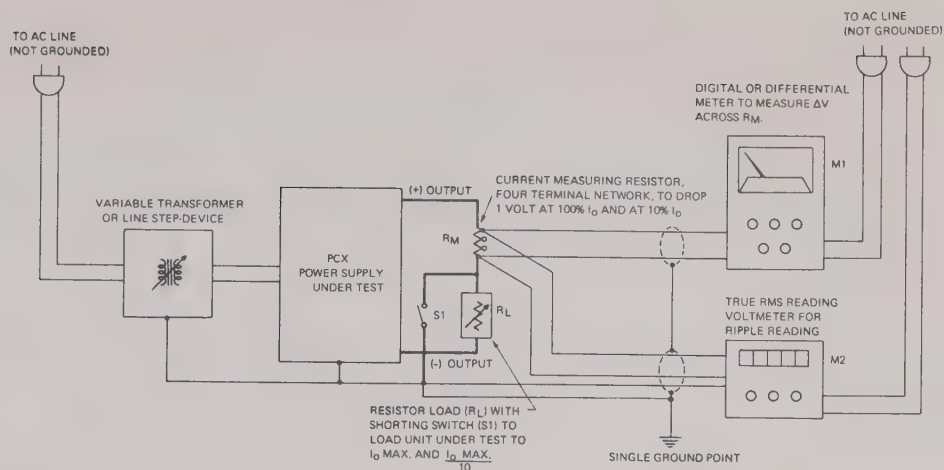

FIG. 5-4 TEST SET-UP FOR CURRENT REGULATION MEASUREMENTS
- c) **LINE REGULATION MEASUREMENT.** Set up test set-up as shown in FIG. 5-4. (Measure line regulation by varying the AC line between the specified limits and noting the deviation (ΔV) on the meter across R_m . Line regulation is specified in percent of the maximum rated output current:
- d) **LOAD REGULATION MEASUREMENT.** Retain the test set-up shown in FIG. 5-4. Set the AC input to 115 V AC. Measure load regulation by opening and closing the load switch (S1) and noting the deviation (ΔV) on the meter across R_m . Load regulation is specified in percent of the maximum rated output current: (and in μA):
Careful wire-dressing and shielding, as well as good AC grounding are of the utmost importance to get valid results (Use single ground point as shown in FIG. 5-4).